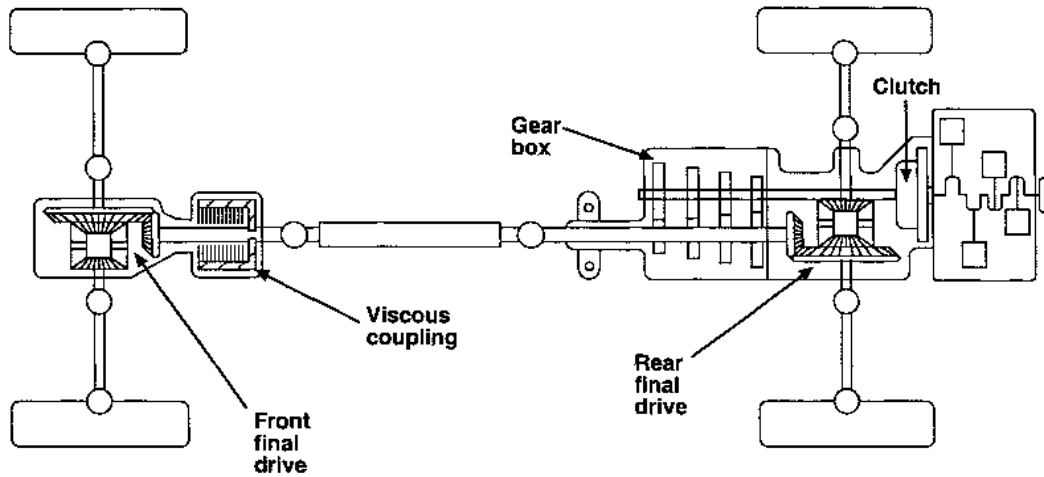

Figure 1 © Heinz Heisler (Advanced Vehicle Technology)
- (b) The diagram shown in Figure 1, represents the transmission layout of a four wheel drive vehicle.